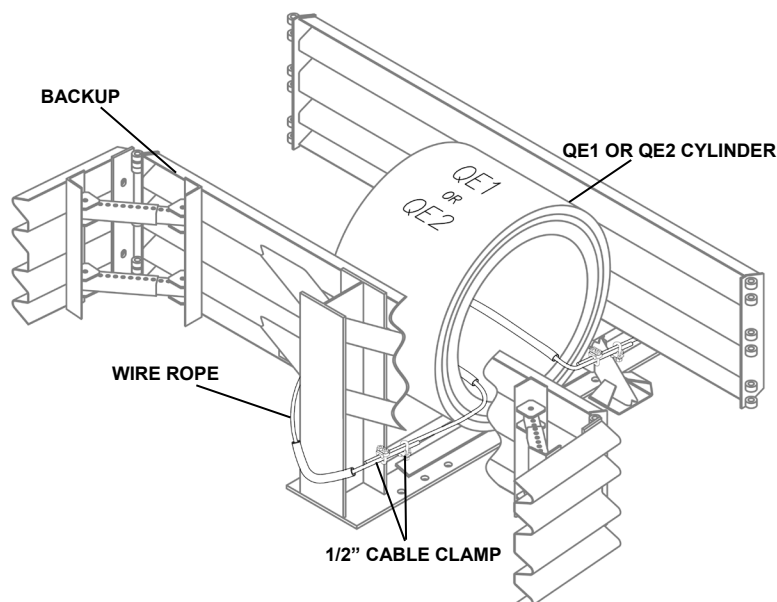

Figure 52
All QuadGuard® Elite systems utilize a specific Cylinder configuration. Each system may be equipped with up to three different types of Cylinders. See Figure 52 with corresponding Cylinder configuration depending on the number of Bays.
Thread the 1/2" diameter wire rope around the back face of the Backup structure, the Cable Jacketing Tube, and the center of the Cylinder as shown in Figure 52.
Attach ends of the cable using two (2) 1/2" Cable Clamps as shown in Figure 52. The Cable Clamps should be separated by approximately 4" [102 mm] as shown.